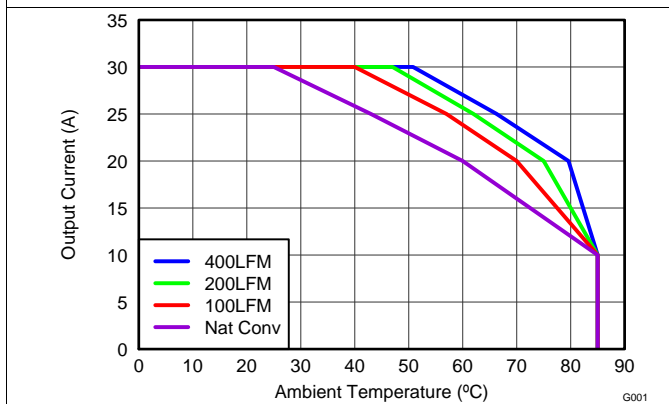
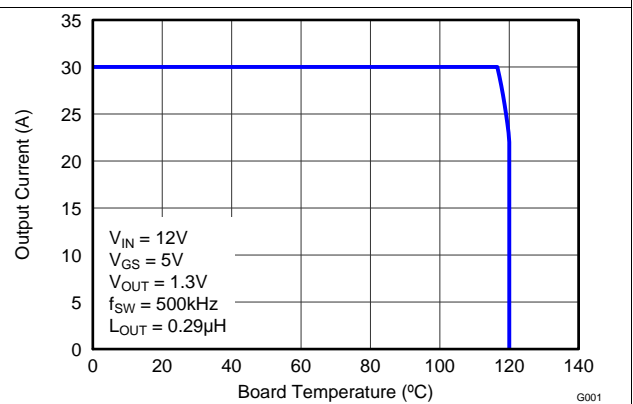

Figure 3. Safe Operating Area – PCB Horizontal Mount
Figure 4. Typical Safe Operating Area
$T_J = 125^{\circ}\text{C}$, unless stated otherwise. For Figure 3 and Figure 4, the Typical Power Block System Characteristic curves are based on measurements made on a PCB design with dimensions of 4.0 inches (W) x 3.5 inches (L) x 0.062 inch (H) and 6 copper layers of 1 oz. copper thickness. See Application and Implementation for detailed explanation.
$T_J = 125^\circ\text{C}$, unless stated otherwise. For Figure 3 and Figure 4, the Typical Power Block System Characteristic curves are based on measurements made on a PCB design with dimensions of 4.0 inches (W) x 3.5 inches (L) x 0.062 inch (H) and 6 copper layers of 1 oz. copper thickness. See Application and Implementation for detailed explanation.
The SOA curves in the CSD87384M data sheet provide guidance on the temperature boundaries within an operating system by incorporating the thermal resistance and system power loss. Figure 3 to Figure 4 outline the temperature and airflow conditions required for a given load current. The area under the curve dictates the safe operating area. All the curves are based on measurements made on a PCB design with dimensions of 4 inches (W) × 3.5 inches (L) × 0.062 inch (T) and 6 copper layers of 1 oz. copper thickness.